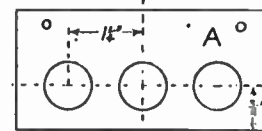

Fig. 4—Pipette holders
For the pipette holders (Fig. 4) two pieces of wood $4\frac{1}{2}$ ins. by 2 ins. will be needed. The broken lines make centring easy. In the upper holder (A) the holes are sawn or drilled $\frac{1}{16}$ in. wide. This section is, of course, simply screwed into the cut-out on the back board. The
lowed by piece 10, the beak-head, cut as in Fig. 4. We now cut one bulwark or upper side piece (11) and glue it in place on the hull, followed by one gallery side and the gallery end cut as in Fig. 5. When one each of the fore, main and mizzen channels are cut and glued in position, the little hull is complete.